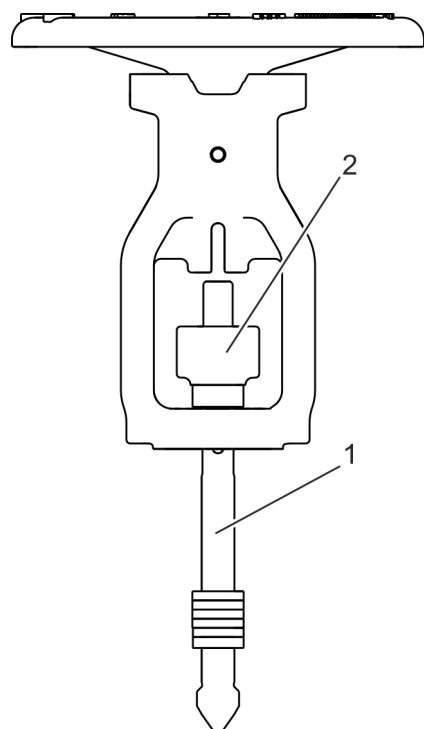

Fig. 26: Unscrewing the stem
- 15.** Unscrew the stem (Fig. 26/1) from the threaded bush.
- 16.** Take the gland follower flange (Fig. 26/2) off of the stem.
- 17.** Carefully remove the stem (Fig. 26/1) from the disc.